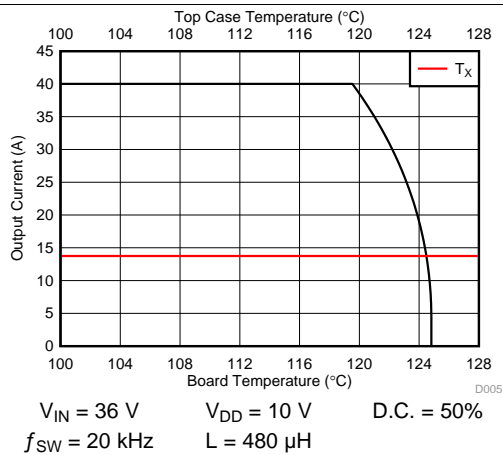

Figure 3. Typical Safe Operating Area
The SOA curve in Figure 3 provides guidance on the temperature boundaries within an operating system by incorporating the thermal resistance and system power loss. This curve outlines the board and case temperatures required for a given load current. The area under the curve dictates the safe operating area. This curve is based on measurements made on a PCB design with dimensions of 4 in (W) × 3.5 in (L) × 0.062 in (H) and 6 copper layers of 2-oz copper thickness.